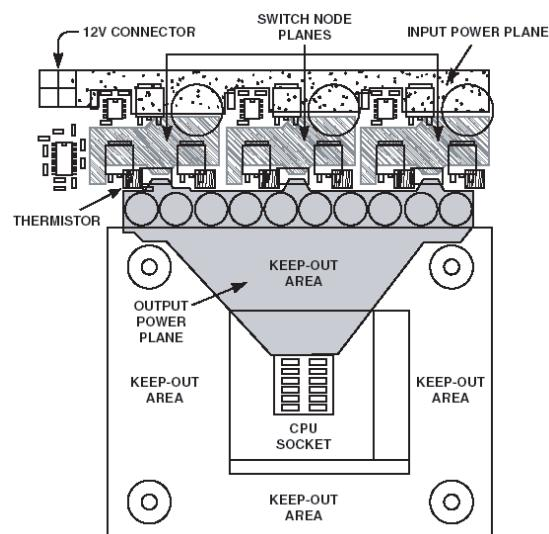

Figure 11. Layout Recommendations
The following guidelines are recommended for optimal performance of a switching regulator in a PC system. Key layout issues are illustrated in Figure 11.
- The components around the FAN53180 should be located close to the controller with short traces. The most important traces to keep short and away from other traces are the FB and CSSUM pins. Refer to Figure 11 for more details on layout for the CSSUM node.